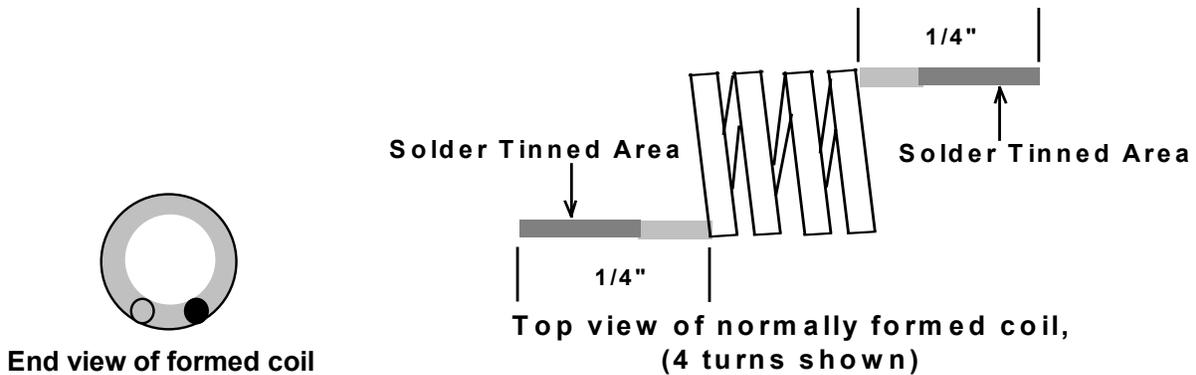

Figure 3. L1, L3, and L4 details.
- Form and install L1, L3 and L4. Refer to Figure 3. (Top Side)